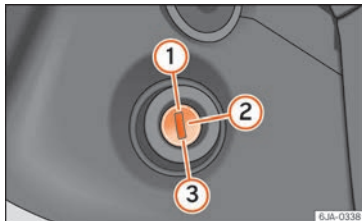

Fig. 211 Ignition key positions.
- When moving with the engine switched off, the ignition key must always remain in position ② »» Fig. 211 »» page 197 (ignition on). The control lamps will light up in this position. Otherwise, the steering lock could engage suddenly. Risk of accident!
- The starter motor may only be used (key position ③ »» Fig. 211 »» page 197 in the ignition) if the engine is off. Using the starter motor when the engine is running could damage it.
- Press the clutch pedal all the way down and start the engine  »» Fig. 211 »» page 197, without pressing the accelerator. Keep the clutch pedal pressed down until the engine starts.
- If the engine does not start after 10 seconds, turn the key back to position ①. Repeat the action after 30 seconds.
Stop the engine by turning the ignition key to position ① »» Fig. 211 »» page 197.